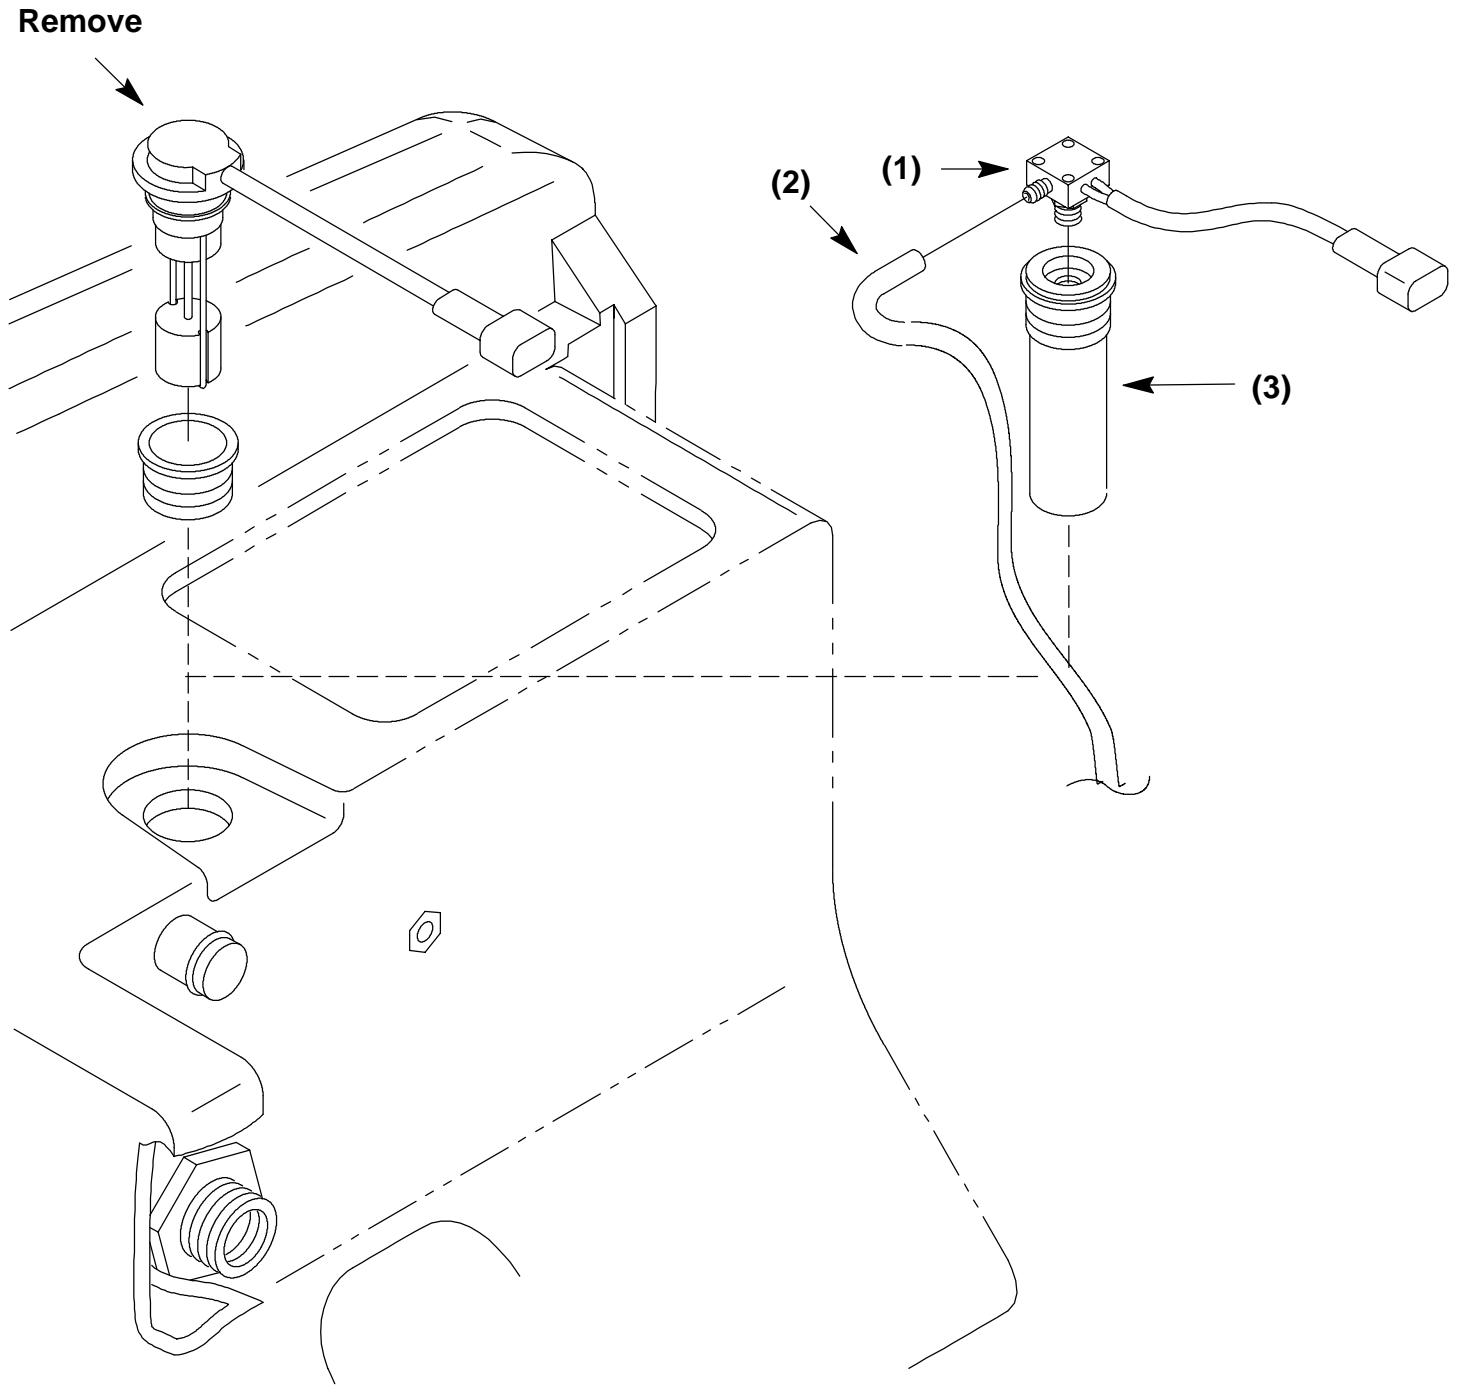

FIG. 1 - Tube/Switch assembly (1)
(Refer to FIG. 1 thru 15)
(Refer to FIG. 1)
2. Locate and remove the original float switch from the solution tank. (Refer to FIG. 1)
3. Install the (8 inch) tube/switch assembly in the solution tank opening. (Refer to FIG. 1)
4. Locate the grey and black wire harness (wire #'s 14/13Q), and plug the wire harness into the pressure switch harness, and attach the 0.25 in. OD X 0.16 in ID X 8 in long rubber vacuum hose on the pressure switch nipple. (Refer to FIG. 1)
5. The vacuum hose does not hook up to anything, it is open to atmospheric pressure. Orient the switch so that the harness and hose both clear everything. (Refer to FIG. 1)